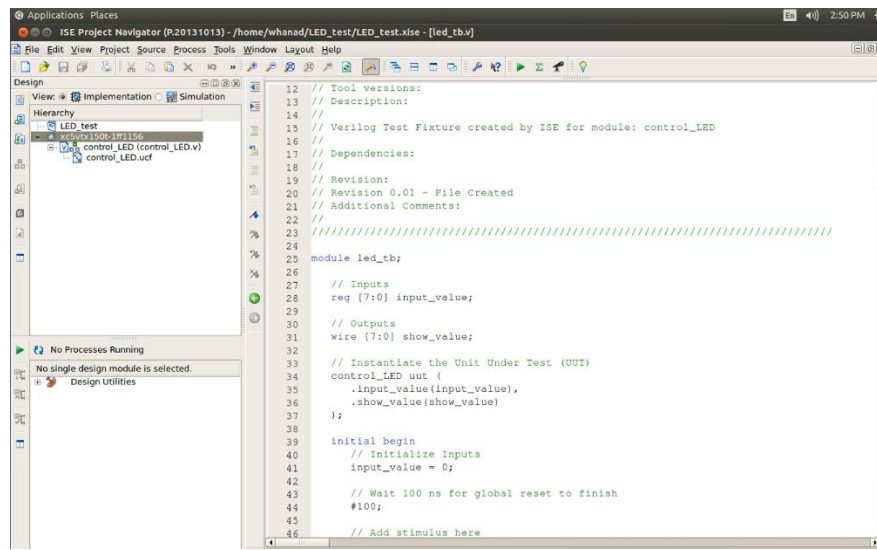

Fig.6-1: Testbench Template
28. In **Implementation view**, right click on the window below and select “**add source file**”. Then select “**Verilog Test Fixture**”. Name the file as **led_tb**. Then a testbench template will show on the screen as Fig.6-1. **Spend some time** to have an overview of the format of this file. In the succeeding labs, you need to complete the testbench yourself.